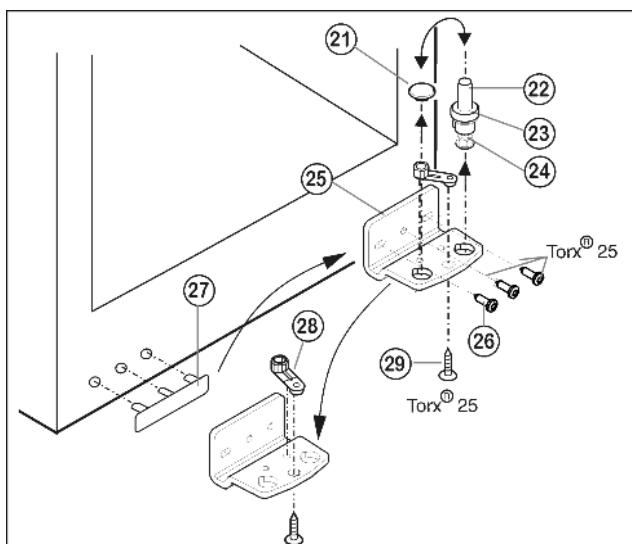

Fig. 6
- ▶ Lift out the bearing pin Fig. 6 (22) together with washer Fig. 6 (23) and foot Fig. 6 (24).
- ▶ Lift off the stopper Fig. 6 (21).
- ▶ Unscrew Fig. 6 (26) the turn hinge Fig. 6 (25).
- ▶ Unscrew Fig. 6 (29) the bearing element Fig. 6 (28), transfer it to the opposite location hole of the turn hinge and screw it firmly into place.
- ▶ Carefully lift off the cover on the handle side Fig. 6 (27) and transfer it to the opposite side.
- ▶ Screw the turn hinge Fig. 6 (25) firmly into place on the new hinge side, possibly using a cordless screwdriver (with 4 Nm).
- ▶ Re-insert the stopper Fig. 6 (21) into the other hole.
- ▶ Re-insert the bearing pin Fig. 6 (22) together with washer and foot. In so doing, pay attention that the locating lug points backwards